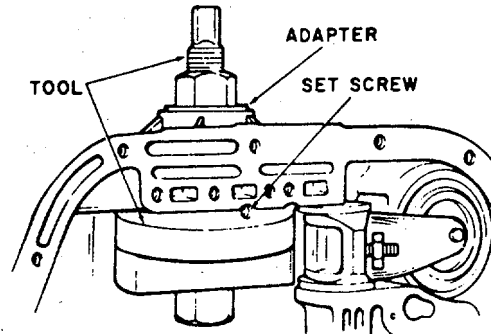

Figure 5-11. Location of Overrunning Clutch Cam
2. Place the spring retainer (2) on the cam (1), making sure the retainer lugs snap firmly into the notches on the cam.
4. Install cam installer C-3863 and adapter SP-5124 as shown in figure 5-11. Tighten nut on tool to seat cam in the case. Make sure cam is firmly bottomed. Then install cam retaining setscrew. Stake the case around the setscrew to secure.
6. With transmission case in upright position, install the clutch race (5), 12 rollers (3) and 12 springs (4). Check all parts to be sure that they are positioned properly in the transmission case.